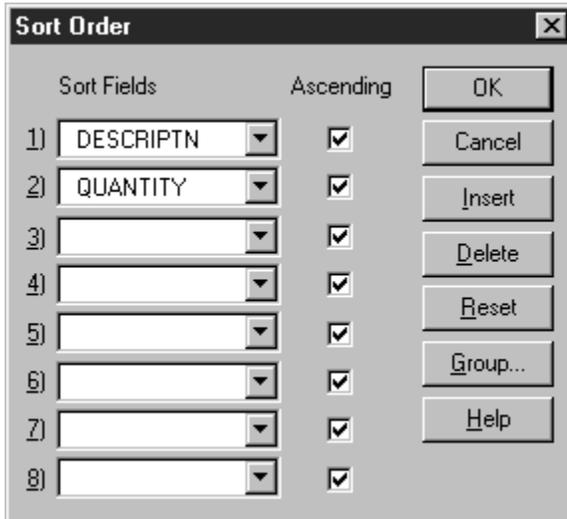

Figure 11.1 Sort Order Dialog Box
1. Select Database ⇒ Sort Order (or the Sort button) to display the Sort Order dialog (see Figure 11.1).